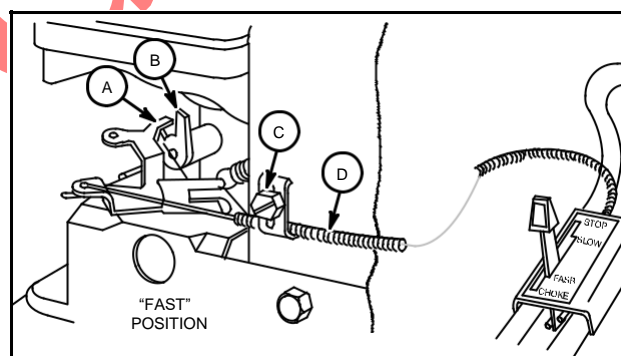

Fig. 173 - CHOKE-A-MATIC® CONTROL, TYPICAL
2. Then mount remote control with casing clamp as shown in Fig. 173.
4. Tighten screw "C." Recheck operation of controls after adjustment, Fig. 173.